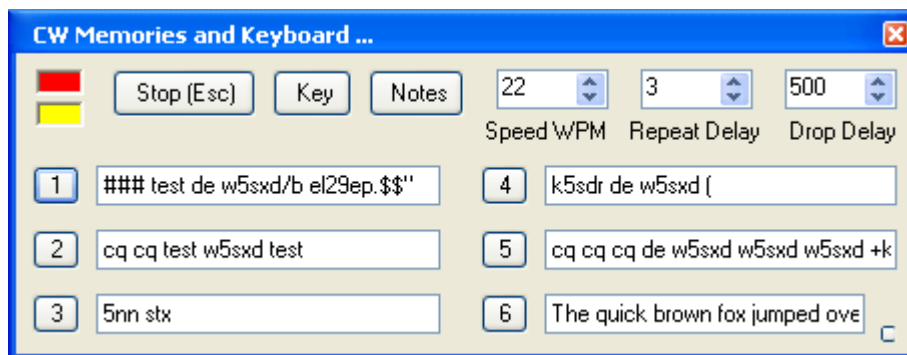

Figure 29: CWX Form
If you wish to send CW automatically or with the keyboard, click on **CWX (33)** on the Front Console menu to open the CWX Form shown in Figure 29 below. (Refer to the CWX Form section on page 89 for more detail on how to use this form).